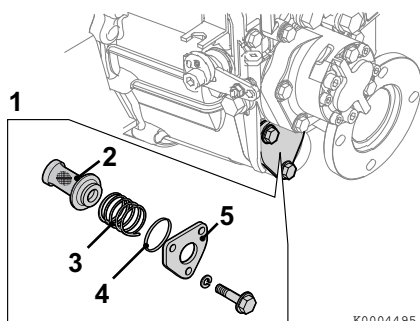

Figure 3
- (a) Remove side cover (**Figure 3, (5)**) and remove the filter (**Figure 3, (2)**).
- (c) Hold the filter in place with the coil spring (**Figure 3, (3)**) and insert into the case. Install a new O-ring (**Figure 3, (4)**) in the side cover.